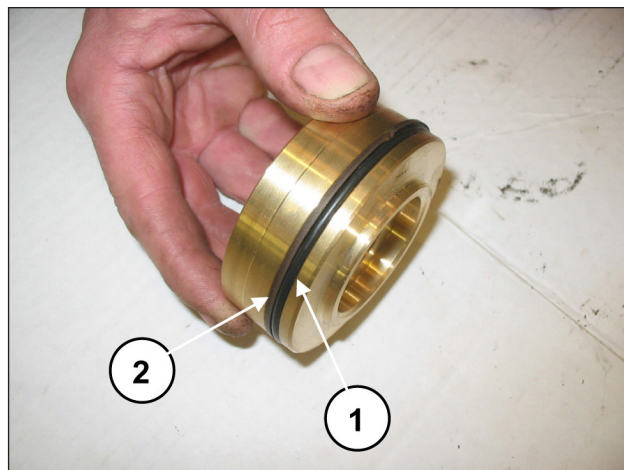

Fig. 131
Fit the O- ring, exploded view pos. 17 (pos. ①, Fig. 131) and back-up ring, exploded view pos. 21 (pos. ②, Fig. 131) on the outlet valve plug.